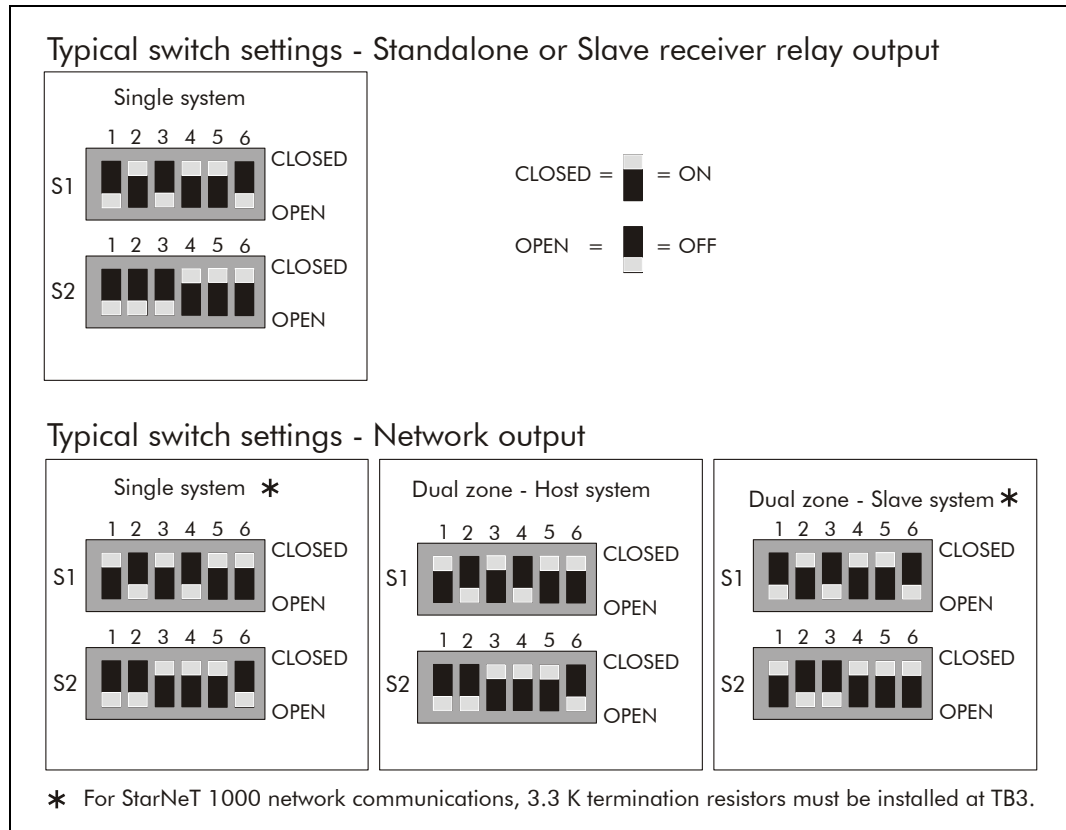

Figure 2-12 MPS-4100 Receiver configuration options
5. Configure the operating parameters via S1 and S2 (see Figure 2-12 and Table 2-4).